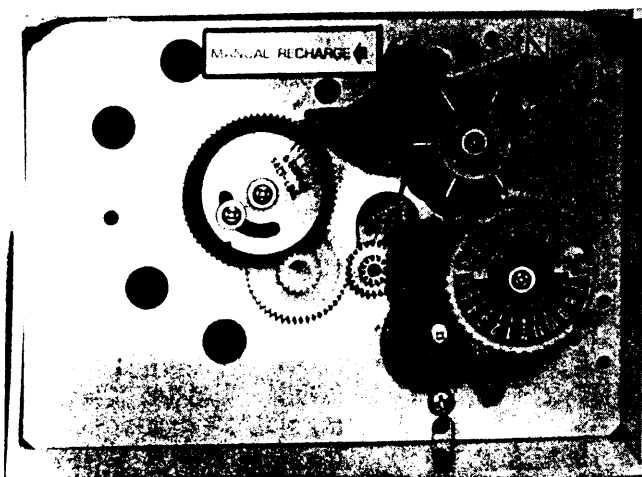

Fig. 21
Starting with all pins in the up position, set the correct frequency on the frequency wheel by pushing down the appropriate number of pins. Refer to Fig. 21 and Tables 3 and 4.
An extra recharge can be initiated by pushing the spring-loaded black lever (N) on the front of the timer all the way to the left in the direction of the arrow and the lever will return to its original position (Fig. 21). The conditioner will begin to recharge. After manual recharge, the unit will resume its automatic program cycle.
1. With the timer in the service position (Fig. 21) connect the three-wire power cord to an appropriate grounded electrical outlet. If a three-wire outlet is not available, purchase a "three-prong to two-prong adapter" from your local hardware store. The ground wire from the adapter should be affixed to the outlet box or plate.